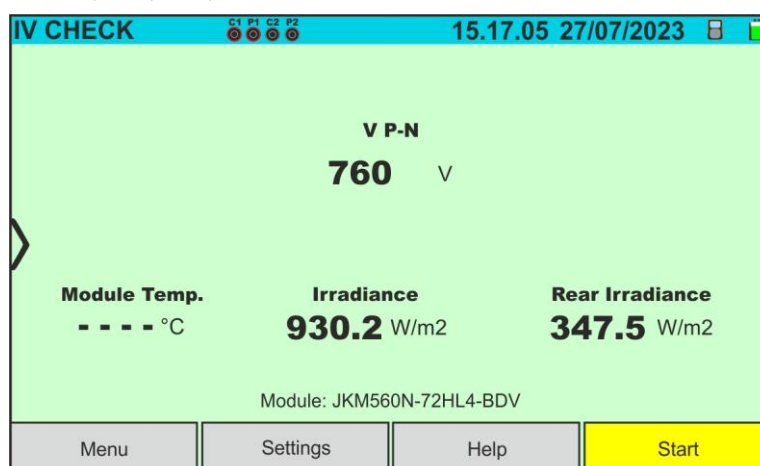

Fig. 55: Initial IVCK test screen without remote unit on Bifacial modules
5. In the case of **Bifacial** modules, the screen of Fig. 55 is present on the display. The following parameters are shown: